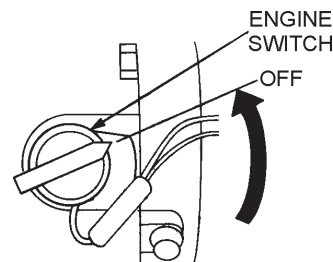

Figure 15. Engine ON/OFF Switch (OFF)
- After the engine **cools**, turn the engine ON/OFF switch to the "OFF" position (Figure 15).